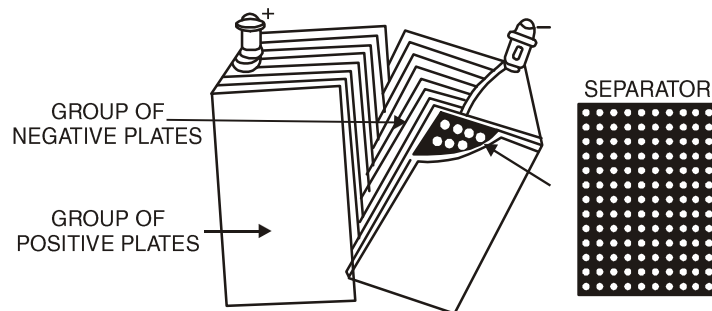

Fig. 6.21: Battery plates and separator
2. **Plates :** Generally, alloy of lead-antimony sheets covered with lead-peroxide and spongy lead forming positive and negative plates respectively are used as electrodes. To increase the capacity of the battery, we use a large number of plates in each cell instead of only two plates. The number of positive and negative plates (*i.e.* 11, 13, 15 or 17) of each cell are alternatively placed and sandwiched with an insulator called *separator* as shown in fig. 6.21. One group of positive and negative plates forms a cell which develops an e.m.f. of 2.0 volt. A separate compartment is provided for each cell in the container of the battery.
3. **Separator** : To reduce the internal resistance of the cell and to save the space, the plates are placed very close to each other. To prevent the plates touching each other if they wrap or buckle, they are separated by a rubber sheet (non-conducting material) having large number of small holes called *separator* [see fig. 6.21].